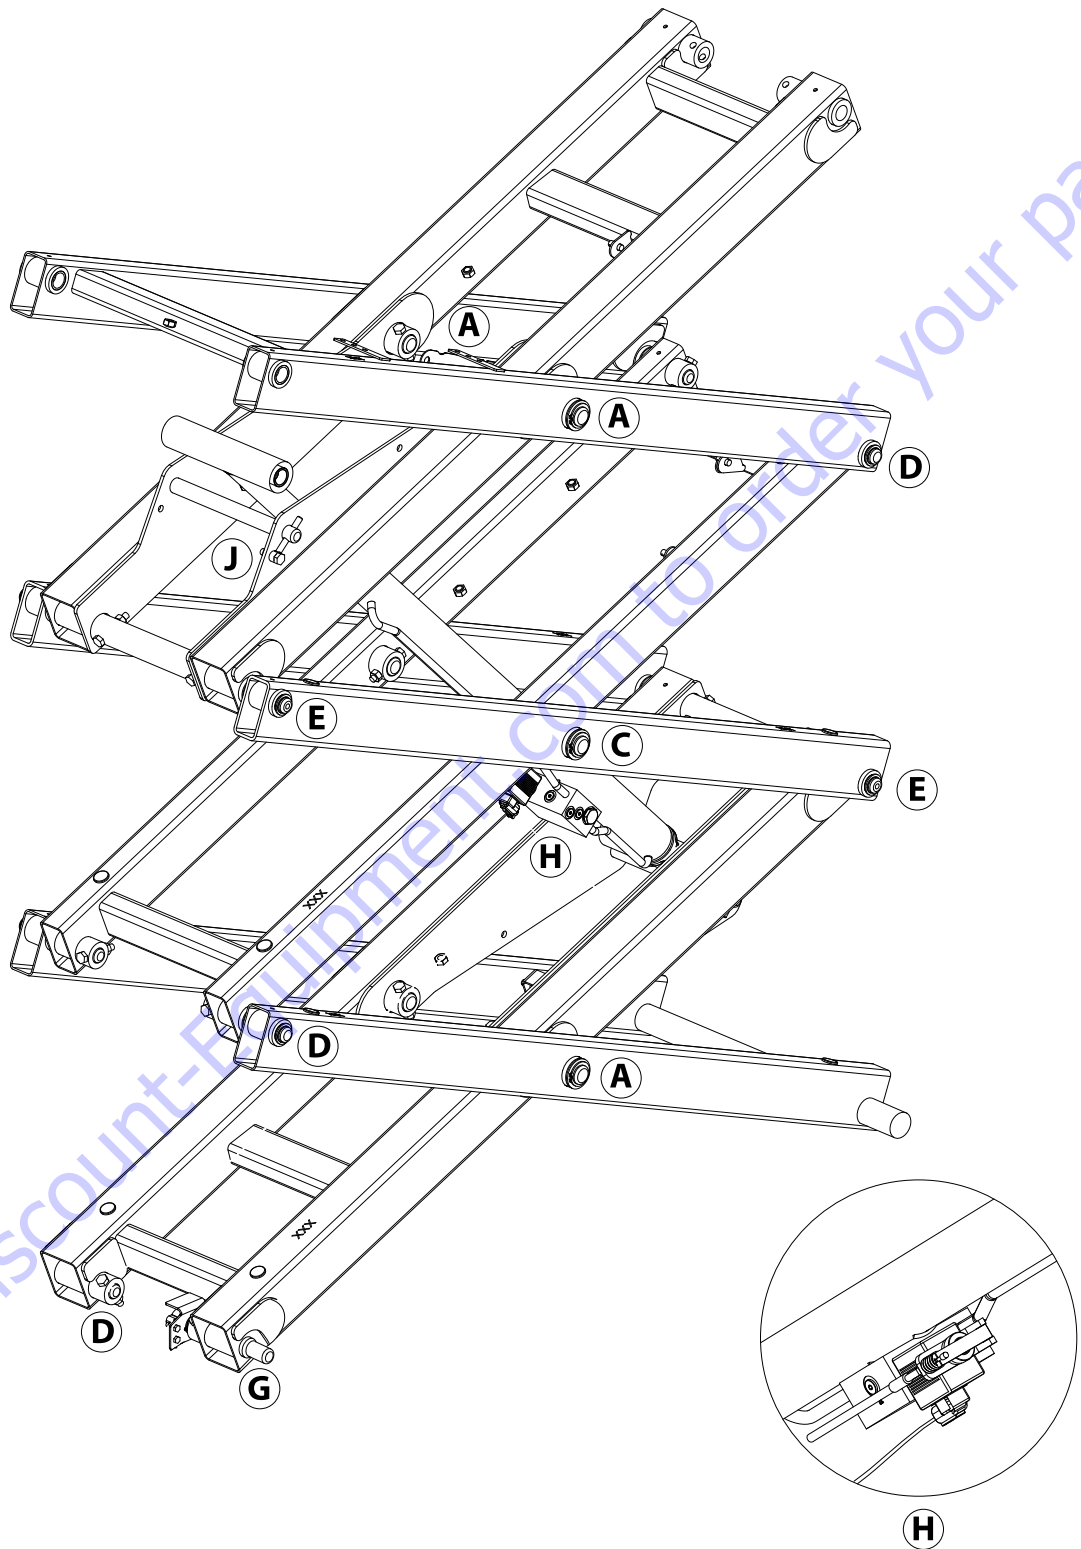
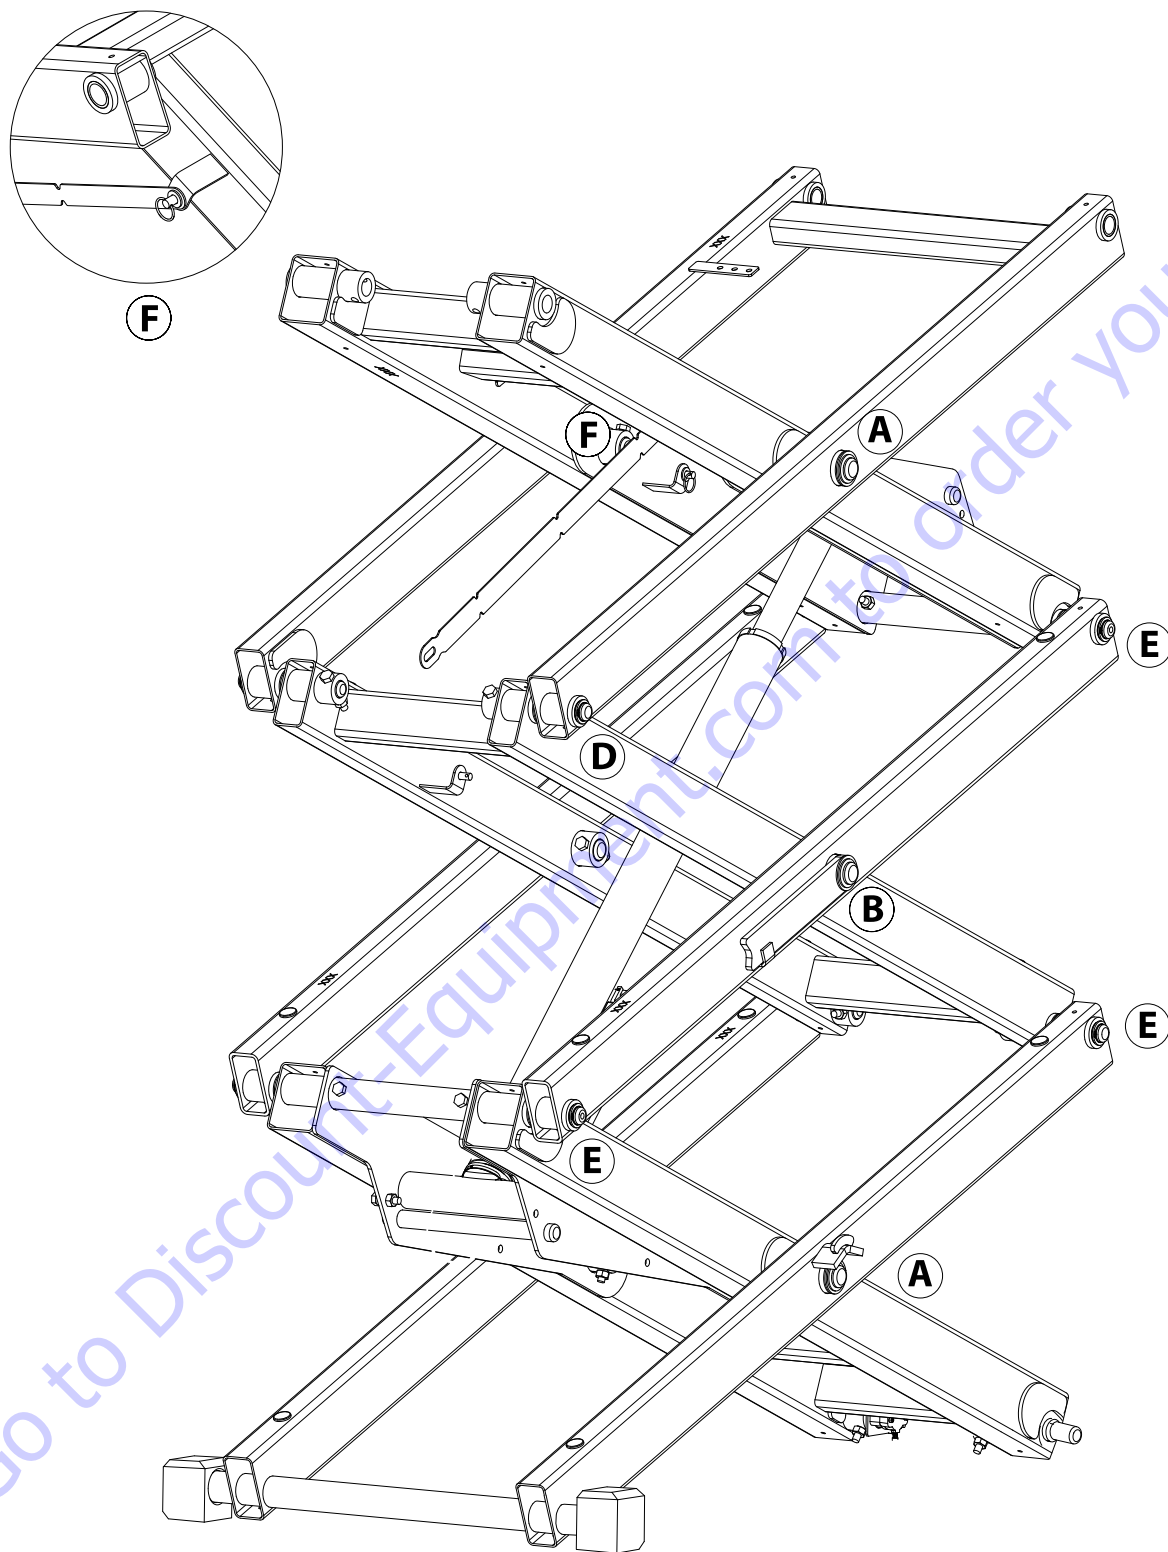
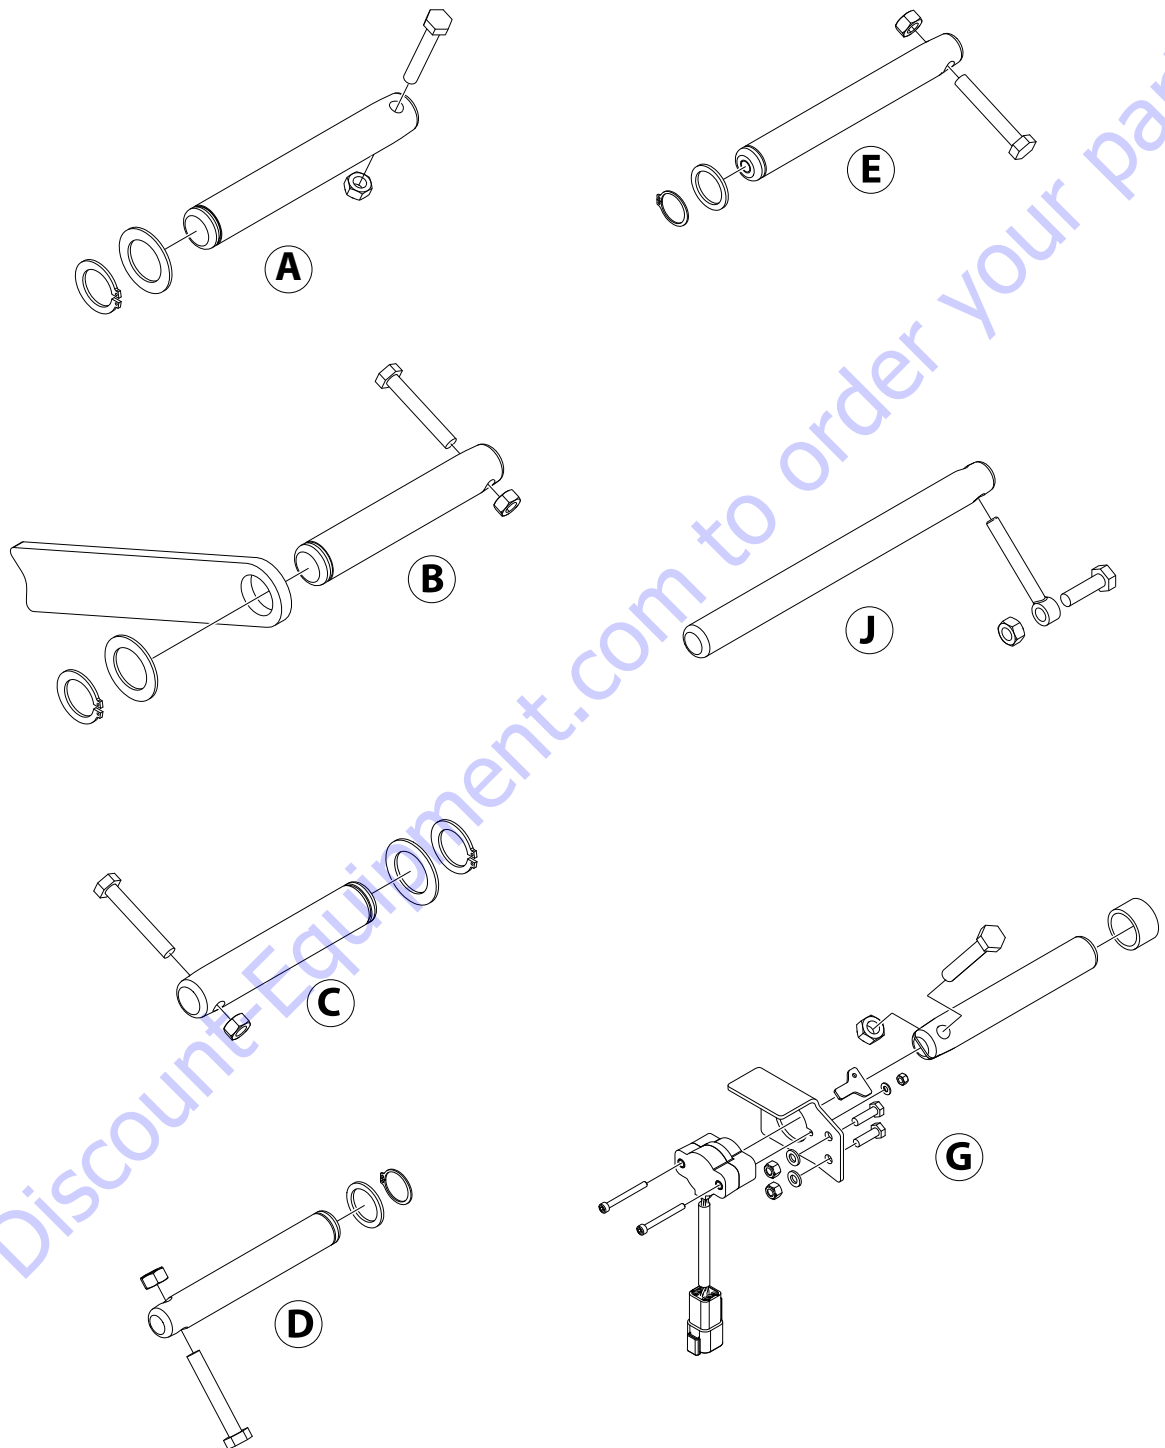

Figure 3-41. Scissor Arm Assembly (1532R)- Ref. Figure 3-43.
Figure 3-42. Scissor Arm Assembly (1532R)- Ref. Figure 3-43.
Figure 3-43. Scissor Arm Assembly (1532R) - Pin Configuration
**NOTE:** For 1532R Refer Figure 3-41., Figure 3-42. and Figure 3-43.